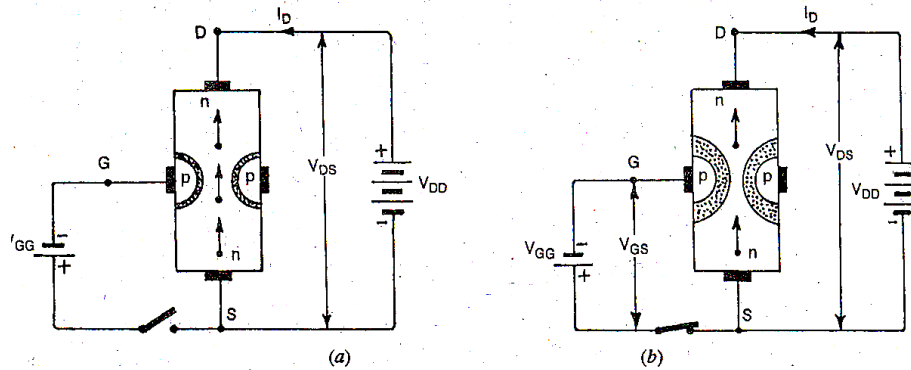

Fig. 36.3
**Q.36(ii) FET as a switch:** The circuit diagram of an N-channel FET with normal polarities is shown in fig. 36.3
When a voltage  $V_{DS}$  is applied across the drain and source terminals and voltage applied across the gate and source  $V_{GS}$  is zero (i.e. gate circuit is open) as shown in above fig. 36.3(a), the two PN junctions establish a very thin depletion layer. Thus a large amount of electrons will flow from source to drain through a wide channel formed between the two depletion layers. In this condition, FET acts like a closed switch.
When a reverse voltage  $V_{GS}$  is applied across the gate and source as shown in above fig.36.3(b), the width of the depletion layer is increased. This reduces the width of the conducting channel thereby decreasing the conduction (flow of electrons) through it. In this condition, FET acts like an open switch. Thus the current flowing from source to drain depends upon the width of the conducting channel which depends upon the thickness of depletion layer. The thickness of depletion layer established by the two PN junctions depends upon the voltage applied across the gate-source terminal.